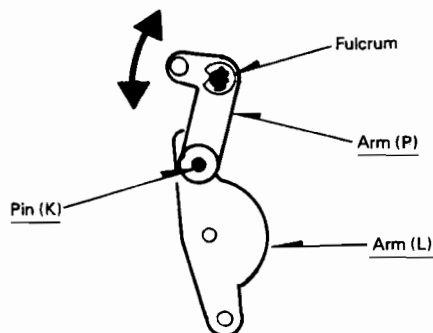

Fig. 16
7. Pin (K) of Arm (L), which engages Arm (P), acts to operate the head selector switch, thus activating the Auto Reverse mechanism in the manner described above (Fig. 16).